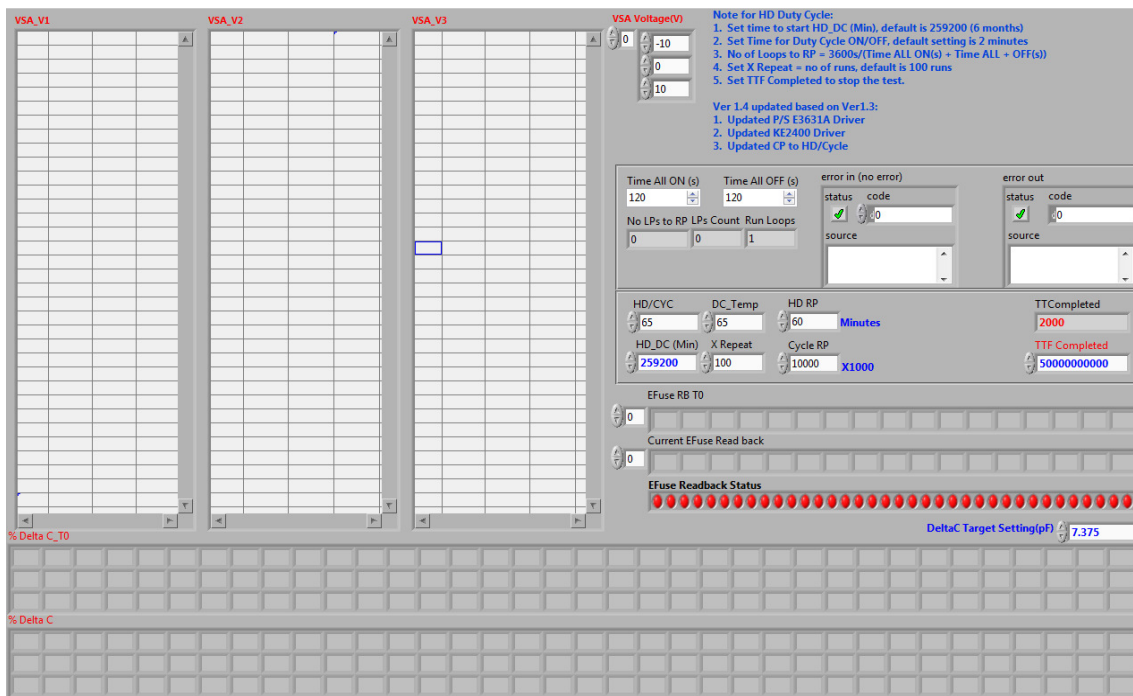

Fig. 9
- The front panel below (Fig. 9) indicates VSA, HS check, EFUSE, % Delta CAP for every read point